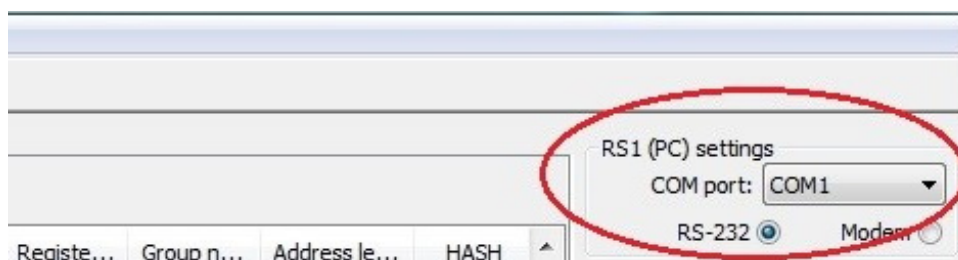

Fig. 4.1
2. In the pane **RS1 (PC) settings** (Fig. 4.1), select **COM port**. Appropriate port number can be found in *Device Manager* under a topic *Connections (COM and LPT)*. If the device driver is successfully installed, a virtual COM port will appear in the list.